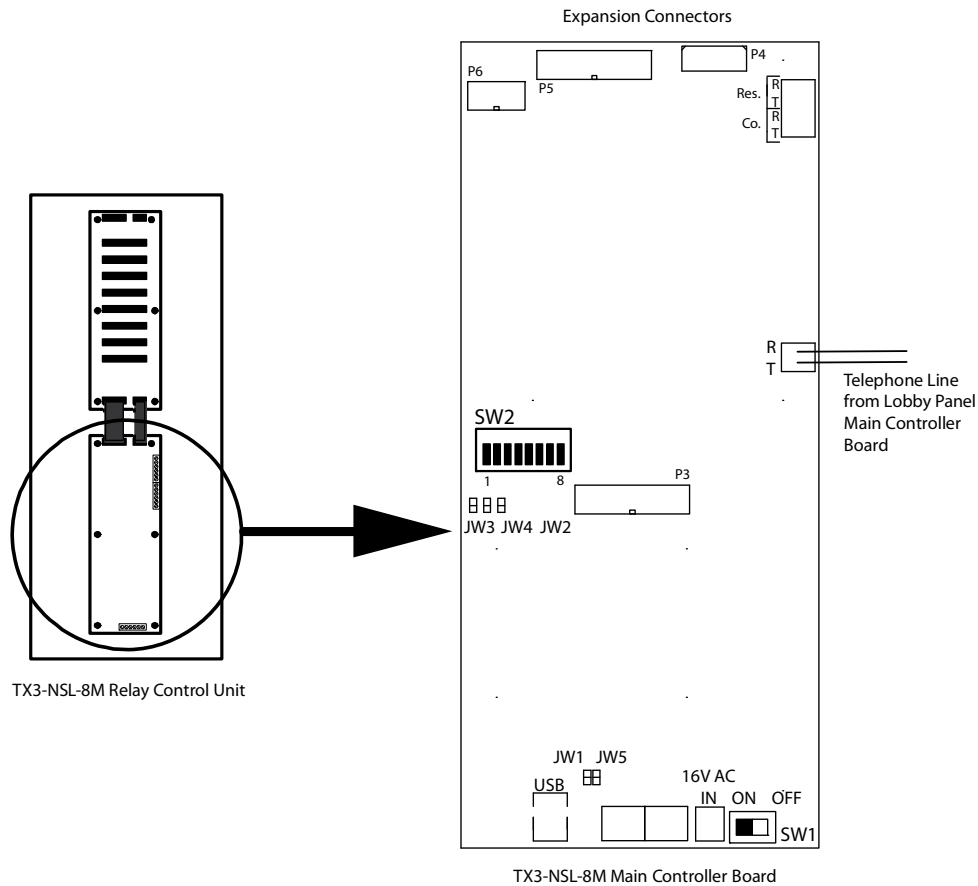

Figure 22. TX3-NSL-8M Main Controller Board
Figure 22 shows the general layout of the TX3-NSL-8M Main Controller board components.
1. Connect a telephone to the TX3-8M-NSL Relay Control unit telephone terminal block (see Figure 22).